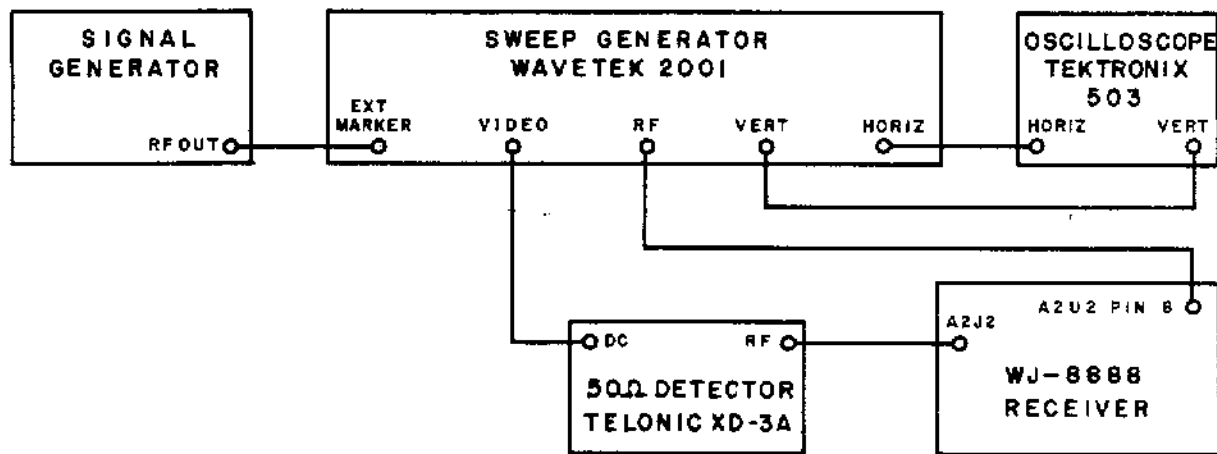
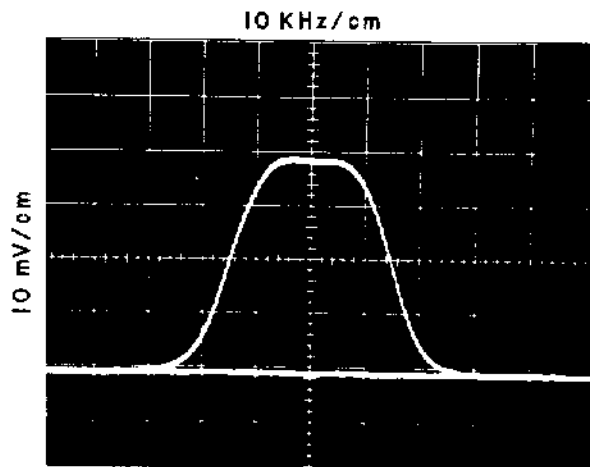

Figure 5-16. Test Setup, RF/IF Alignment
Figure 5-17 . Typical A2FL1 Response
- (3) Tune the receiver, sweep generator, and marker signal generator to 20 MHz. Set the sweep generator output level to -20 dBm.
- (4) Adjust the sweep generator and oscilloscope controls for an undistorted response.
- (5) Adjust C23 and C24 for a maximum amplitude symmetrical response about the 20 MHz marker similar to Figure 5-17 (for clarity, the marker is not shown on the photograph).
- (6) Remove the high impedance detector from A2L12/C26 and place it instead at the junction of A2T3 and A2C40.
- (7) Adjust A2C31 and A2C39 for a maximum amplitude response.
- (8) Connect the equipment as shown in Figure 5-16.
- (9) Set the sweep generator for a -20 dBm 82.805 MHz RF output. Tune the marker signal generator to 82.805 MHz (± 2 kHz).
- (10) Adjust the sweep generator and oscilloscope controls for an undistorted response.
5.7.8 IF GAIN ADJUSTMENTS. - Refer to Figure 7-9 for schematic illustration when performing the adjustments in this paragraph. The parts list illustration for the Type 72399-1 IF Filter Assembly is Figure 5-17.